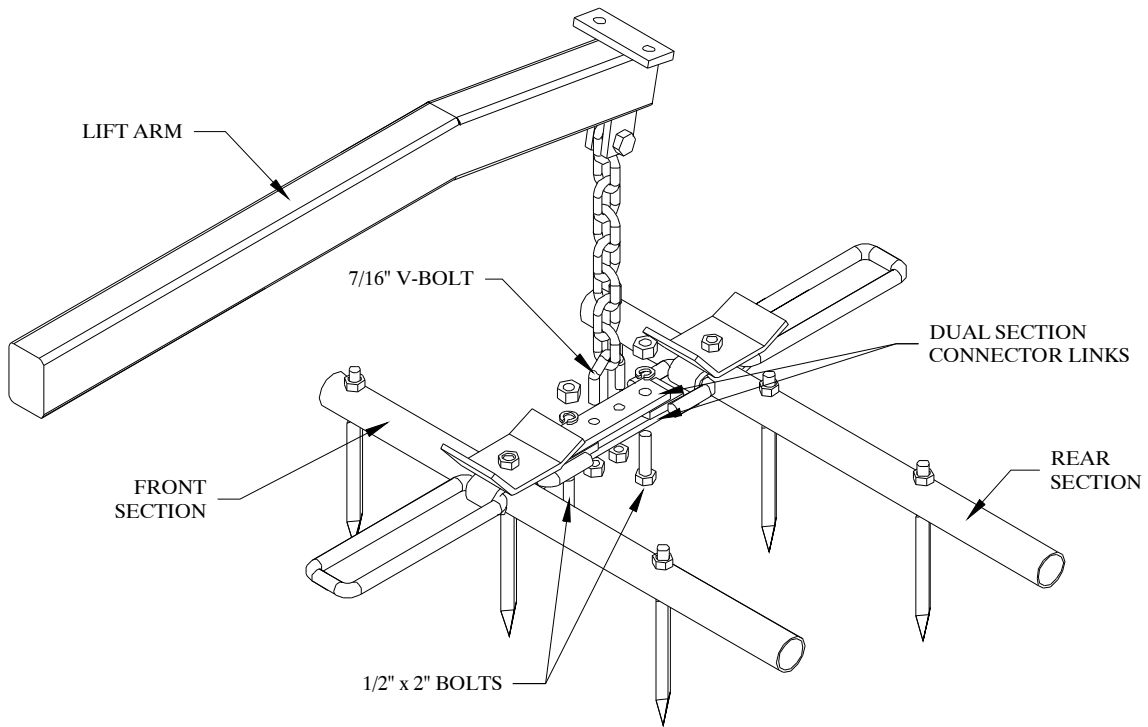

Figure 18
2. Bolt the front and rear harrow sections together using two 5/16” x 1 ½” x 6” dual section connector links at each pull tab. Refer to Figure 18. Use two ½” x 2” bolts, lock washers, and hex nuts. Do *not* tighten yet.